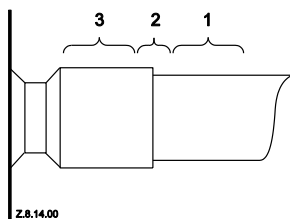

Figure 4: Tube connecting areas
**Figure 4** shows the proper procedure for brazing the suction and discharge lines to a Scroll compressor.